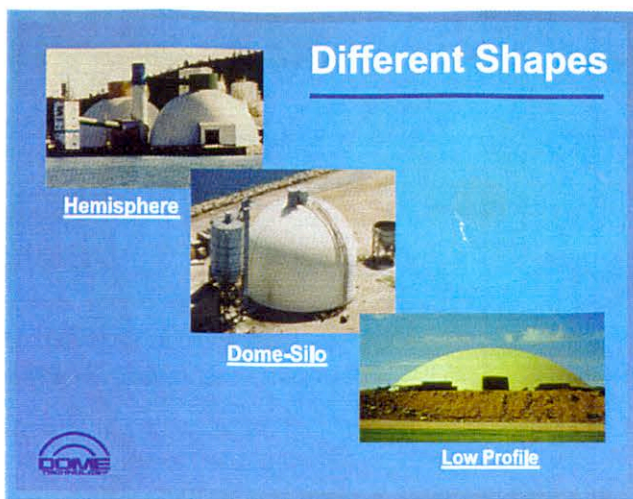

Figure 4. Review of different dome shapes (courtesy of Dome Technology).
- **The flexibility to use different dome shapes:** instead of being limited to spherical domes, the fluidised floor allows for different dome shapes. Figure 4 shows the most common dome shapes: the hemisphere, the high rise dome (or dome-silo) and the low profile dome. The high rise dome is suitable for small port sites, using approximately half the floor area of the hemisphere dome (as shown in the comparison presented in Figure 5).